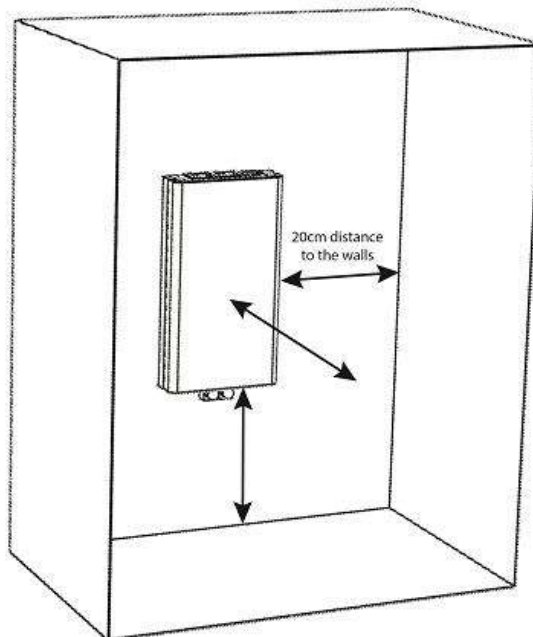

Fig. 1
- ❖ The place of installation must be well ventilated. A ventilation system must be available for installations in small, enclosed spaces. The minimum clearance around the inverter must be at least 20 cm (fig. 1).